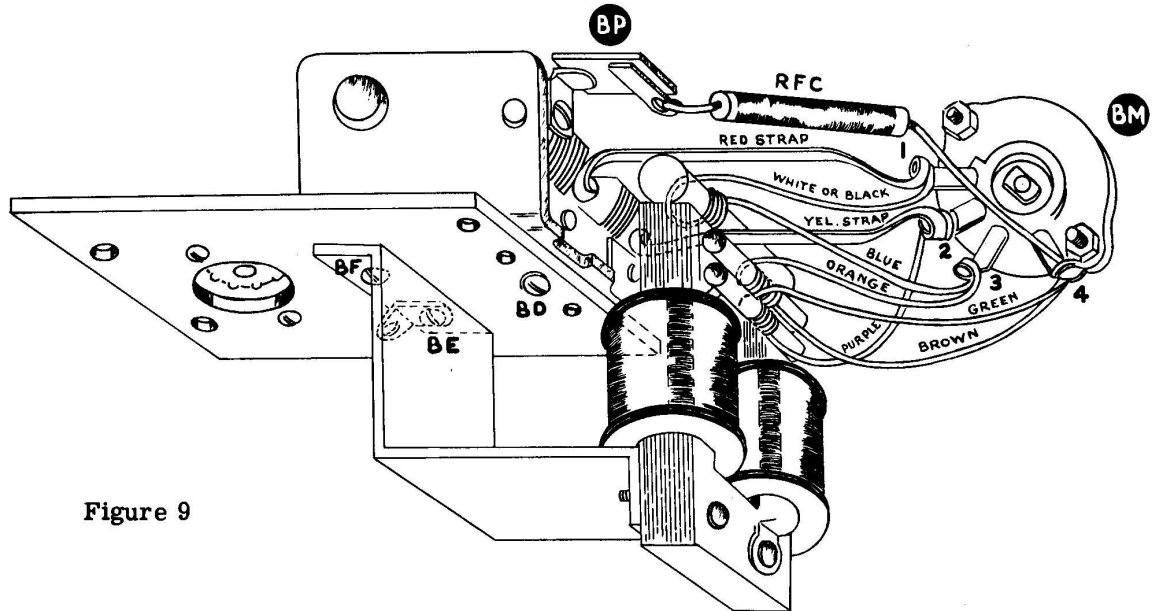

Figure 9
- ( ) Mount the band switch through hole BM in the bracket. The lockwasher must mount in front of the bracket, under the nut. Orient the switch with lugs 1 and 2 pointing toward the tuning condenser as shown in Figure 9. Leave the switch loosely mounted.
- ( ) To begin wiring, bend the lugs on band switch BM until they point straight back at 90° to the wafer. Connect a black or white coded wire to the top left contact BM1 (NS) of the band switch. See Pictorial 3 and Figure 9.
- ( ) Wrap the red coded strap end nearest the band switch snugly around band switch BM1 (S). Make sure that the solder flows smoothly over the entire connection.
- ( ) Connect the purple lead from the bottom coil to band switch BM2 (NS).
- ( ) Wrap the nearby end of the yellow high frequency strap around switch BM2 (S). Make sure that the connection is secure.
- ( ) Connect the blue lead of the top coil to switch BM3 (NS).
- ( ) Connect the orange lead of the middle coil to switch BM3 (S).
- ( ) Connect the brown lead of the middle coil to switch BM4 (NS).
- ( ) Connect the green lead of the bottom coil to switch BM4 (NS).
- ( ) Install an RF choke from terminal strip BP (NS) to switch BM4 (S). Check all wires to the switch to be sure that no shorts exist. Redress the leads slightly if necessary.
- ( ) Wrap the end of the red strap around the adjacent condenser stator lug BN4 (S).